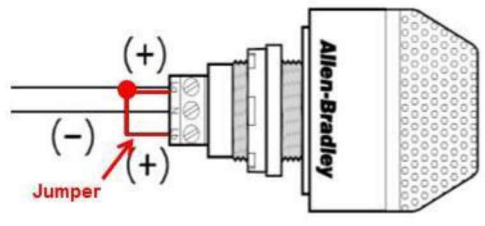

Figure 9-13 RSL jumper wiring
- C.** wired for solid light operation, by placing a jumper between the "La" and "Lb" terminals on the light per Figure 9-13.